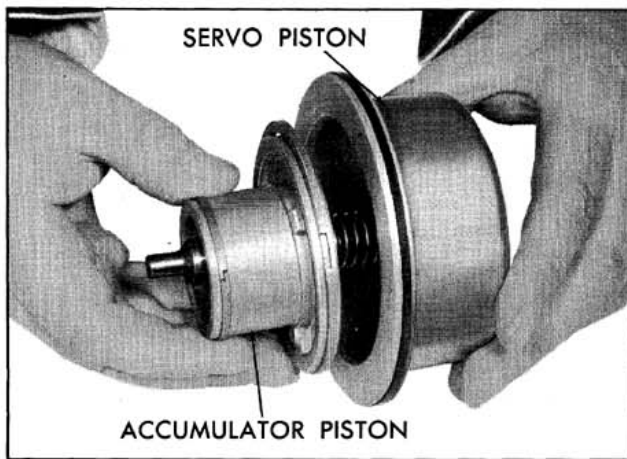

Fig. 6-91 Removing or Installing Accumulator Piston
1. Remove the rear accumulator piston from rear servo piston. (Fig. 6-91)
4. Install outer and inner oil rings on accumulator piston if removed and assemble into bore of servo piston. (Fig. 6-91)